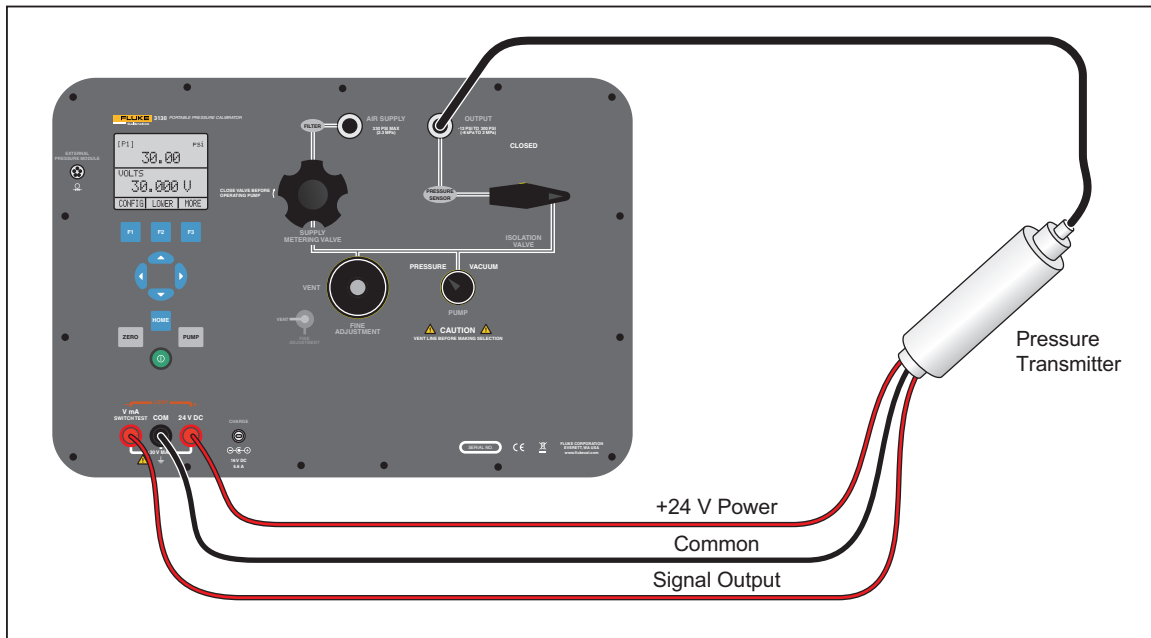

Figure 27. Calibrate a Pressure-to-Voltage Transmitter
5. Make sure that the read value is correct. If it is not correct, the transmitter must be adjusted. See Figure 27 for connections.